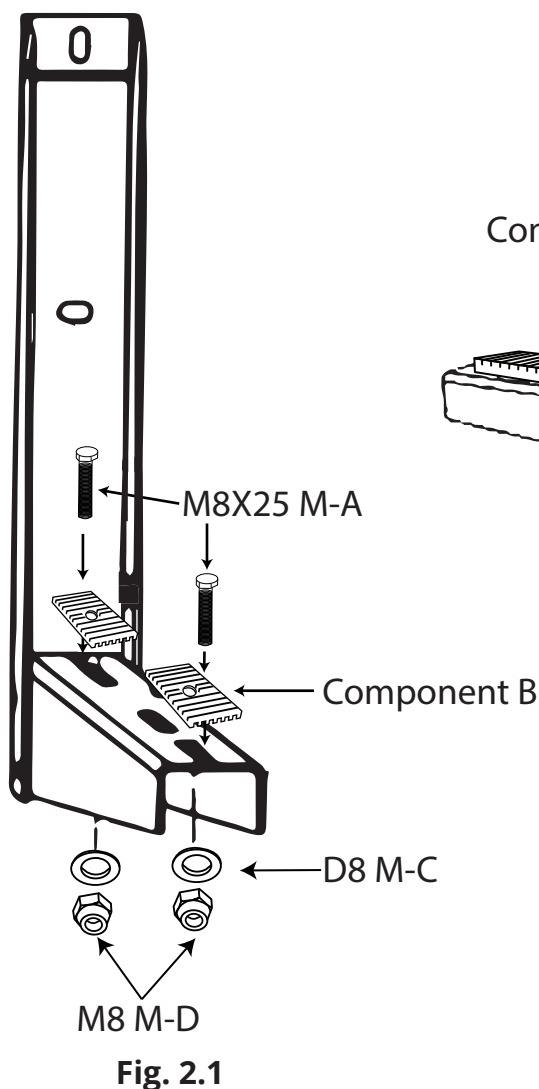

Fig. 2.1
1. Take one of the folded brackets (Component C) and unfold it into an "L" shape, so that it stands upright and is pointed towards you. Refer to **Fig. 2.1**.
3. Next, take two bolts (component M8x25 M-A) and place washers (component B) onto them. Then, insert the bolts with washers into the front and rear slide holes on the top of the base of component C. Next, put washers (component M-C) on the ends of each bolt and then secure with nuts (component M-D). **DO NOT overtighten the nuts.** Please refer to **Fig. 2.1**.